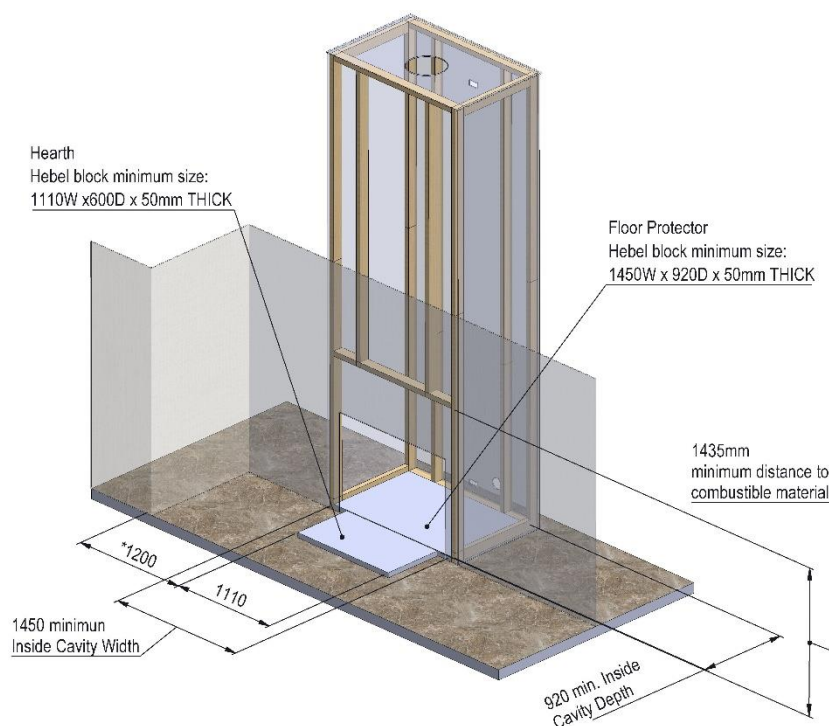

Fig. 2
- G1.** Cavity should be prepared based on the given clearances **or greater**. (Table 1) & (Fig. 2)